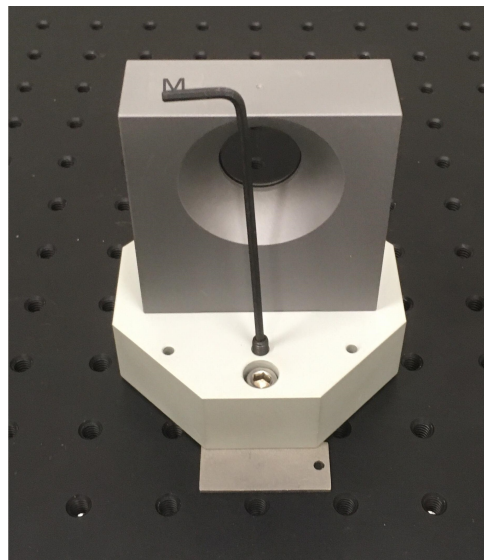

Figure 7: Example of height adjustment
-If you find you cannot get the laser beam directly through any of these holes then you may need to lift the beam splitter or mirror, this can be done by using paper or one of the metal slates provided and sliding them under the mounts. For a more precise increase in height, the beam splitter has a tiny Allen-key bolt that you can tighten to increase height. Both methods are shown in Figure 7 below.